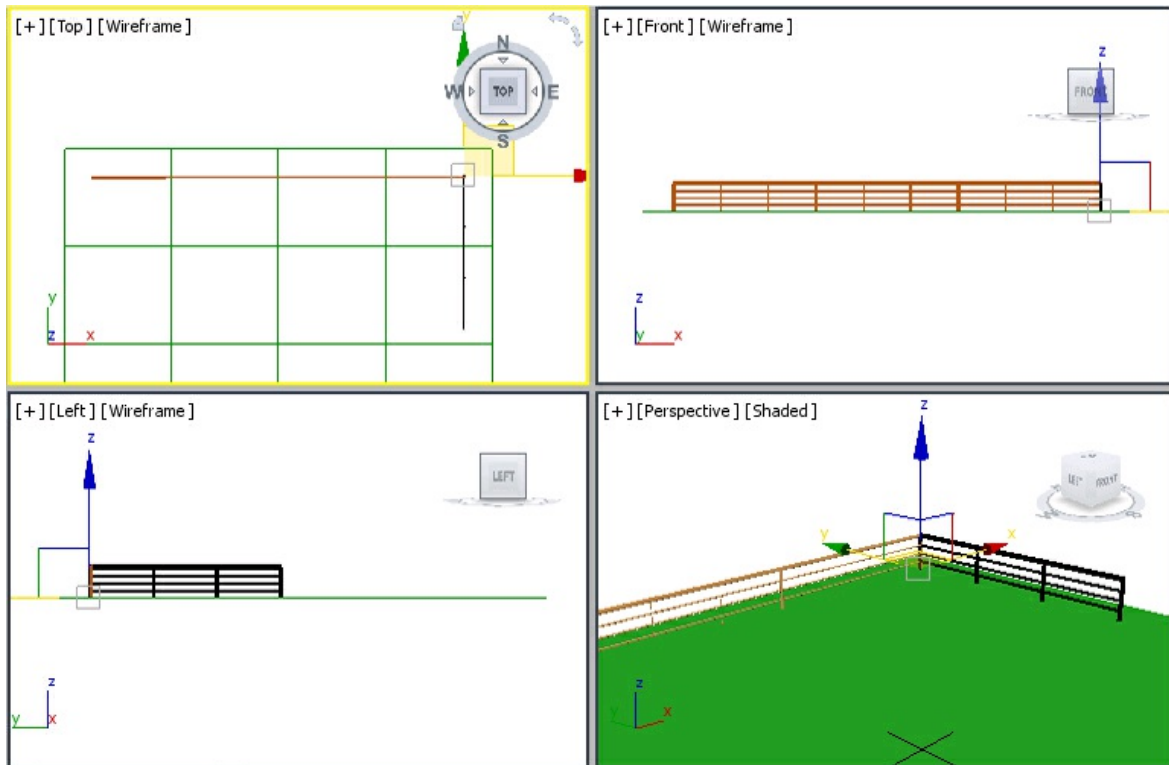

Figure 4-58 The railing02 geometry in viewports after alignment
railing01, refer to Figure 4-58.
17. Choose the **Select and Move** and **Select and Rotate** tools and align *railing02* in the viewports, as shown in Figure 4-58.